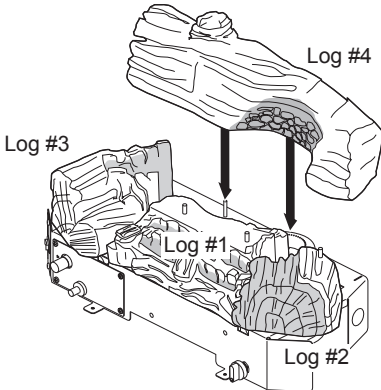

Figure 20 - Installing Log #4
4. Place log #4 onto two alignment screws to the rear of base (see Figure 20).